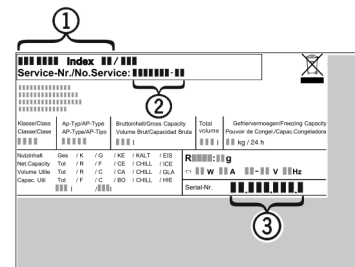

Fig. 14
- ▶ Read the appliance designation *Fig. 14 (1)*, service No. *Fig. 14 (2)* and serial No. *Fig. 14 (3)* off the model plate located inside the appliance on the left-hand side.
- ▶ Notify the customer service, specifying the fault, appliance designation *Fig. 14 (1)*, service No. *Fig. 14 (2)* and serial No. *Fig. 14 (3)*.